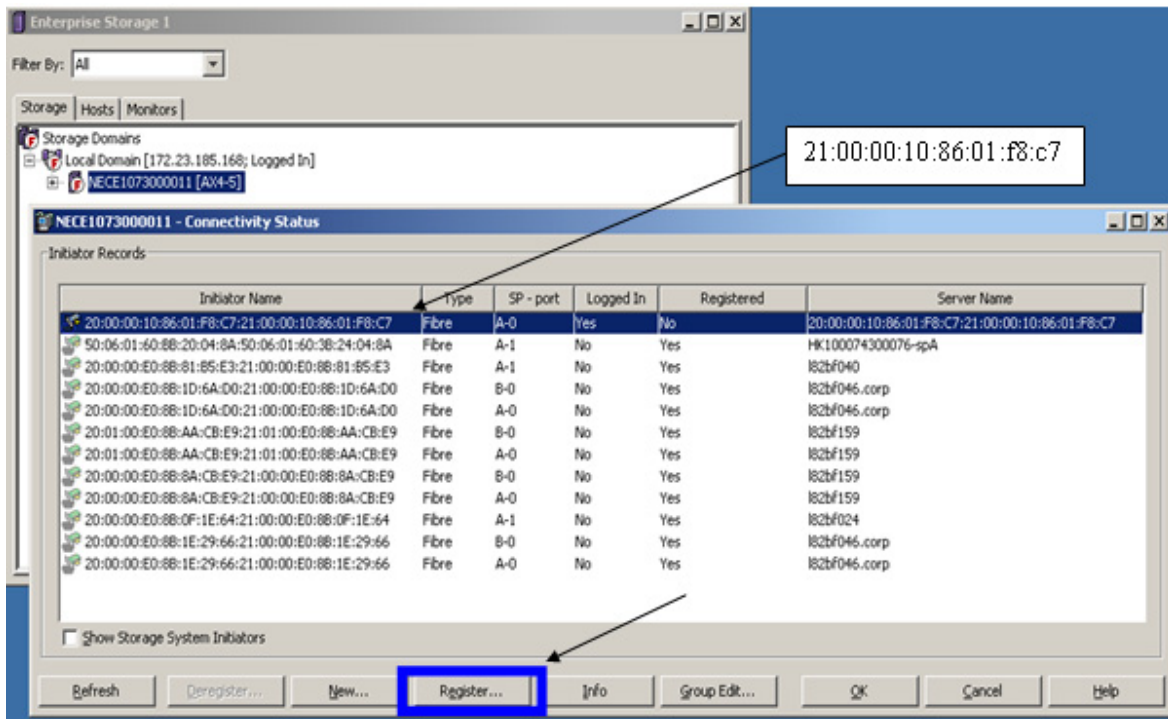

Figure 3 Connectivity Status window
- Right-click on your array and then click **Connectivity Status** from Navisphere, as shown in Figure 3.
As shown in Figure 3, this HBA is logged in, but not registered. Therefore, the HBA needs to be manually registered.